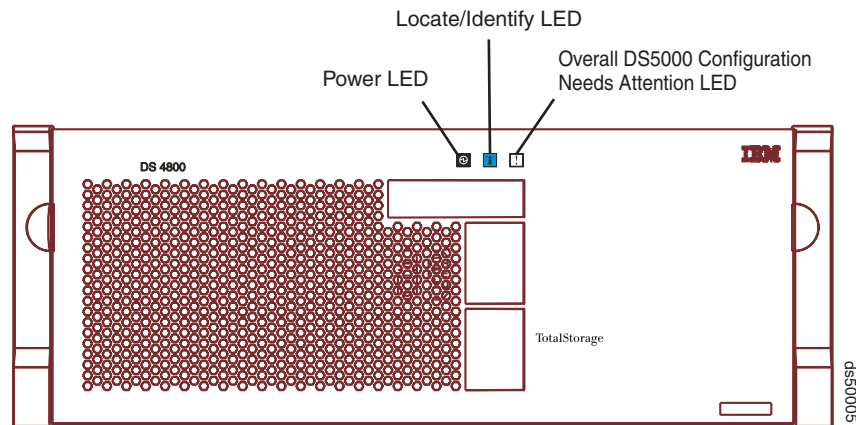

Figure 136. Overall Configuration Needs Attention LED on the DS5100 or DS5300 front bezel
2. Locate the storage subsystem that has the failed SFP module by checking the Overall Configuration Needs Attention LED on the front bezel of the storage subsystem. (Figure 136 shows the location of the Overall Configuration Needs Attention LED on the front bezel.)
2. Locate the storage subsystem that has the failed SFP+ module by checking the Overall Configuration Needs Attention LED on the front bezel of the storage subsystem. (Figure 136 on page 217 shows the location of the Overall Configuration Needs Attention LED on the front bezel.)